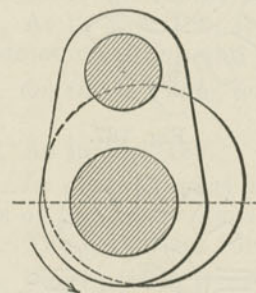

Fig. 184. One Eccentric, Lapped Valve, with rocker.
A. Back of the crank pin (in the opposite direction from which the engine is to run)  $90^\circ$ , less enough to bring the valve line-and-line for admission at stroke end; the eccentric belly being toward the crank. The more lap the more such excess. (See Fig. 184.)